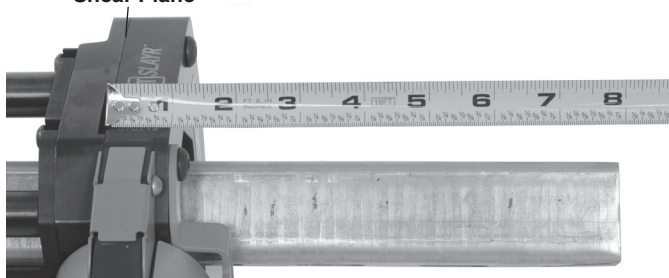

Figure 6A – Measuring Strut Length
- Use the Tape Measure Slot (located on the shear plane) (Figure 6A).